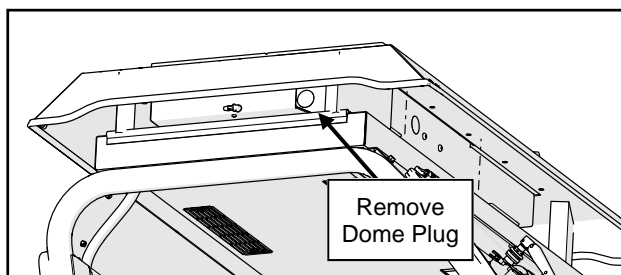

Fig. 2.15 (Remove Dome Plug)
- 2.15** Remove the large dome plug from the passenger's side of the A/C Unit (see Figure 2.15) and install the power harness and second large grommet through this hole. Feed enough of the harness through for the heavy gauge wires to reach the front of the A/C unit.